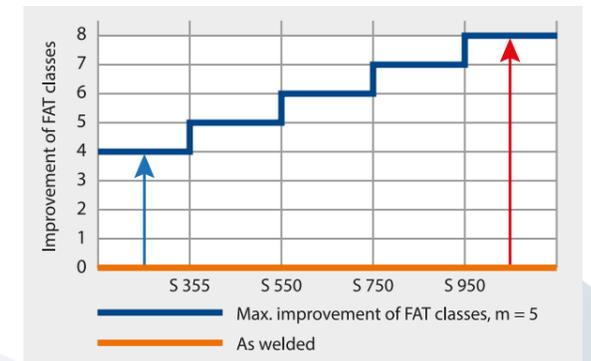
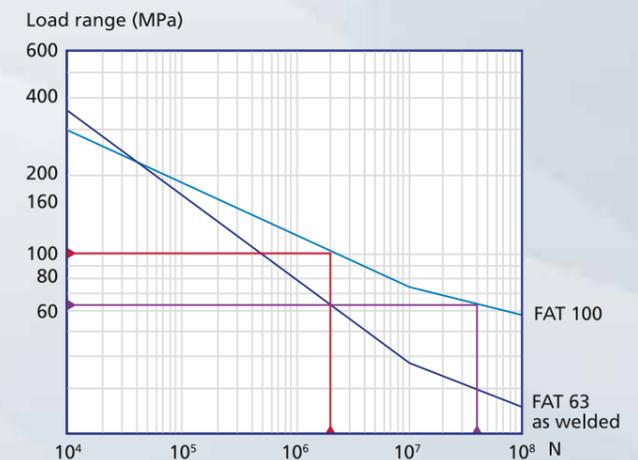
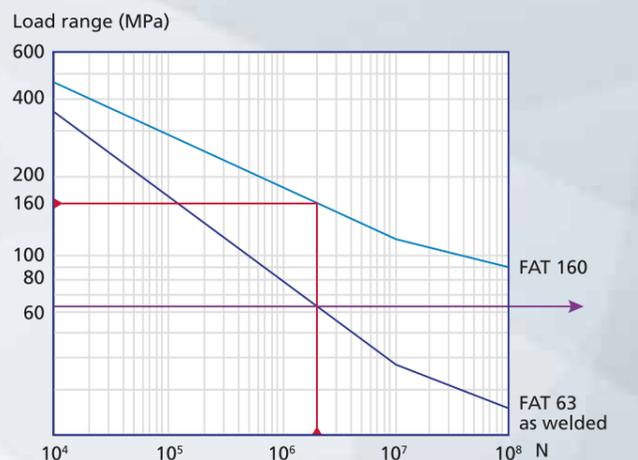

Fig. 1: Max. improvement of FAT classes by HiFIT method (according IIW Guideline for HFMI)
Fig. 2: S-N diagram for $f_y < 355$ MPa; $R \leq 0.15$ (according IIW Guideline for HFMI)
Fig. 3: S-N diagram for $f_y \geq 950$ MPa; $R \leq 0.15$
A welded joint made of a material $f_y < 355$ MPa is classified in FAT class 63. The maximum load range is 63 MPa at 2×10^6 load cycles (see fig. 2). HiFIT hammering increases the FAT class by 4 steps (see fig. 1, blue arrow) to FAT 100, the permissible load range is now 100 MPa. The increase is approx. 60%! With the same load range (63 MPa), the service life increases from 2 million to 40 million load cycles! That is a factor of 20! (see fig. 2)
The same welded joint is now made in a material $f_y \geq 950$ MPa. If the construction is not hammered, nothing changes in the load range and the number of maximum load cycles (load range 63 MPa at 2×10^6 load cycles) (see fig. 3). The use of a high-strength steel grade alone does not result in any improvement. The HiFIT treatment now increases the FAT class by 8 steps (see fig. 1, red arrow) from 63 to 160 MPa. The load range is now 160 MPa @ 2 million load cycles. This means an improvement of approx. 150%! With the same load range (63 MPa) the lifetime increases from 2 million to over 100 million load cycles! The component will probably never fail! (see fig. 3).
- between 60° – 80° to the base material (see fig. 1) and 70° – 90° in the feed direction (see fig. 2).
- The indentation depth of the treatment trace must be approx. 0.2 mm (see Fig. 3).